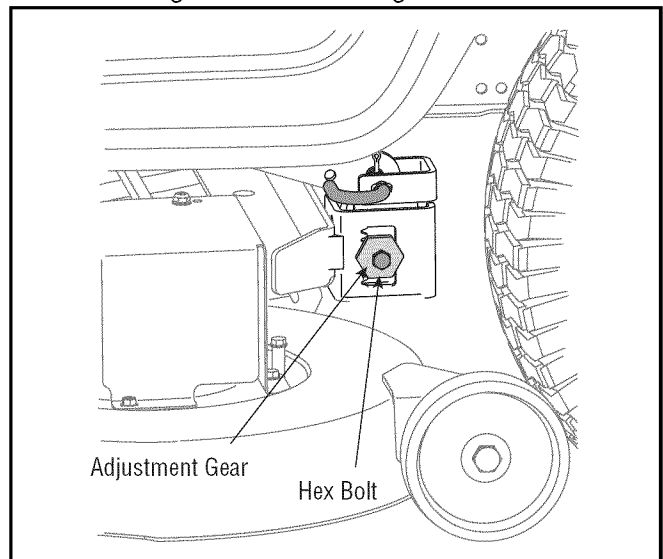

Figure 9
- Loosen, but do NOT remove, the hex bolt on the left deck hanger bracket. See Figure 9.
- Balance the deck by using a wrench to turn the adjustment gear (See Figure 9) up or down.